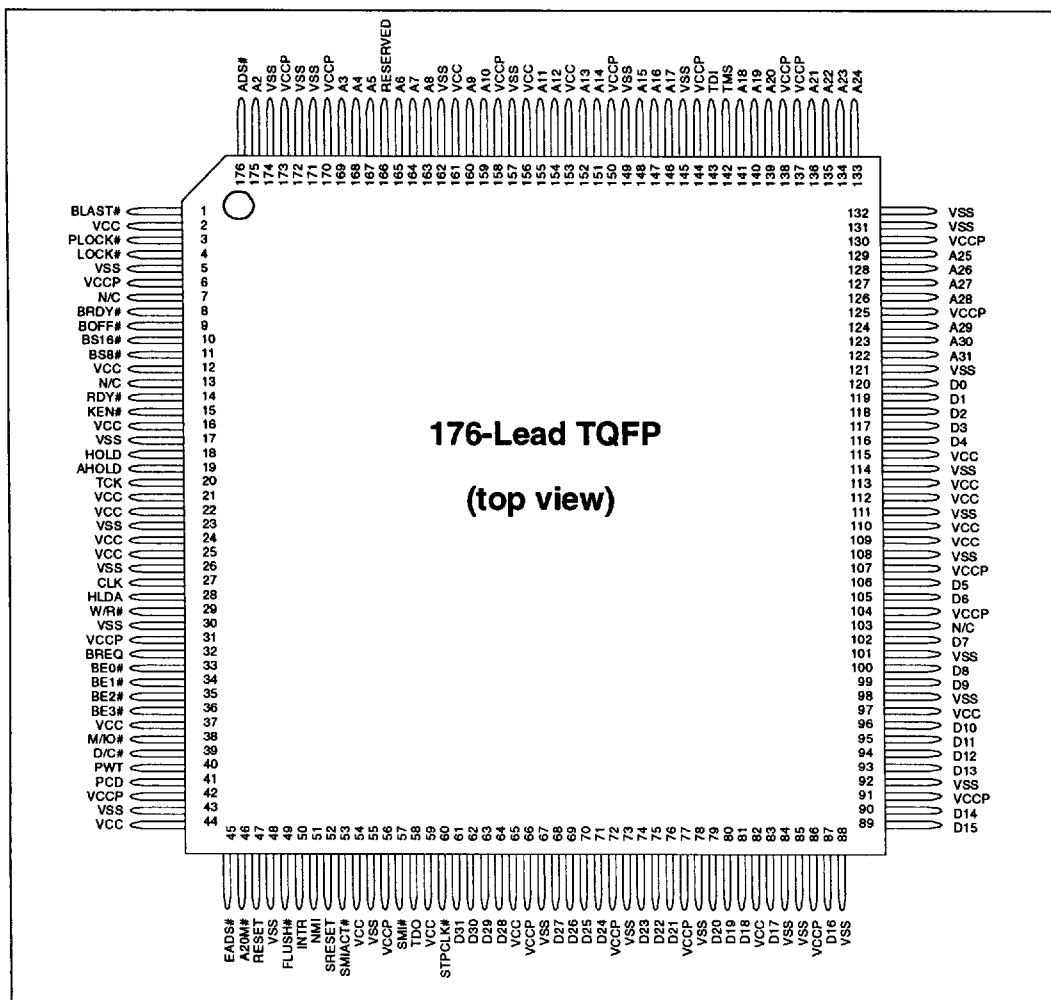

Figure 2. Package Diagram for 176-Lead TQFP Package Embedded ULP Intel486™ SX Processor
- Figure 2, Package Diagram for 176-Lead TQFP Package Embedded ULP Intel486™ SX Processor (pg. 4)